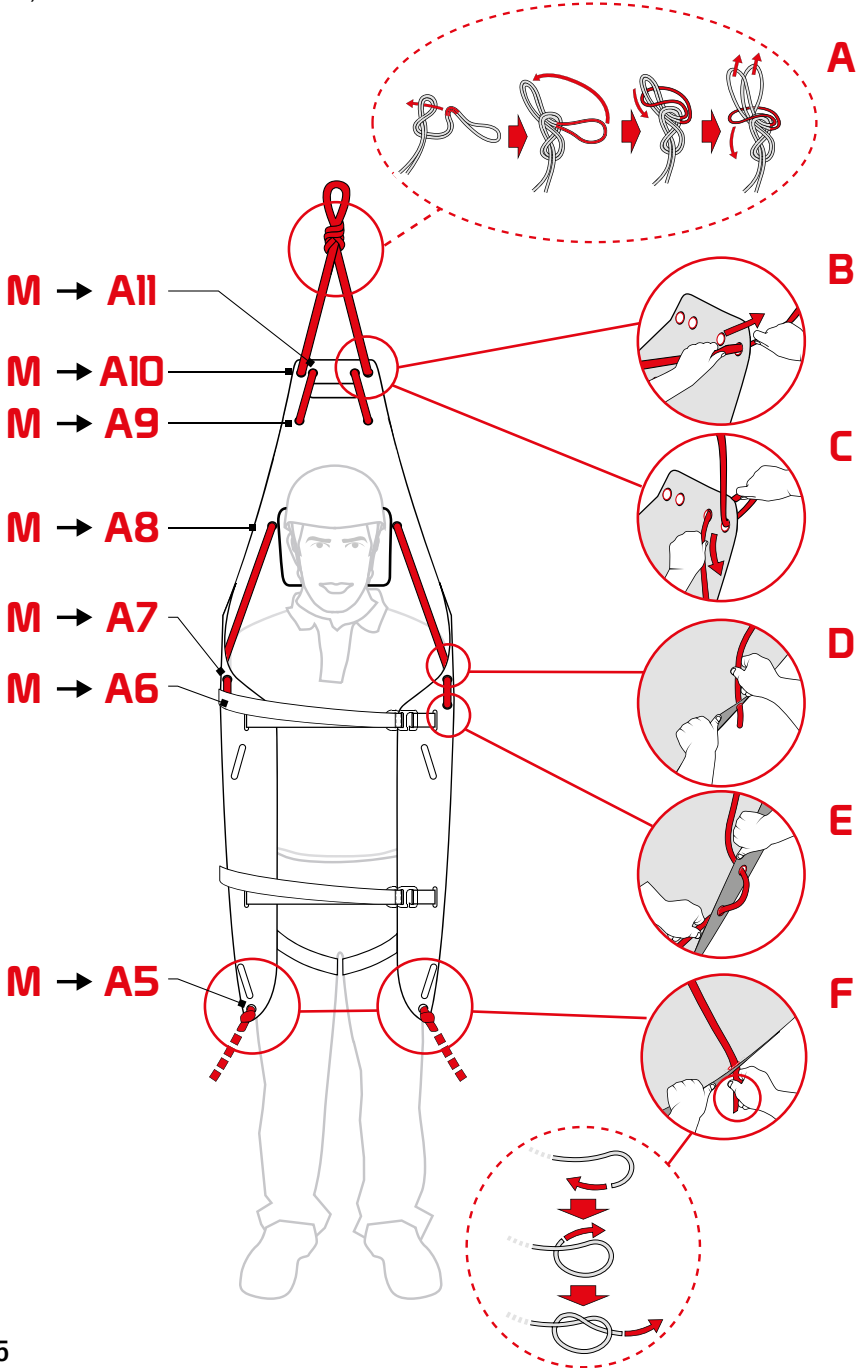

Fig.15
c) Vertical lifting/lowering: insert the rope (M) in the holes from A5 to A11 in the support surface (fig. 15).